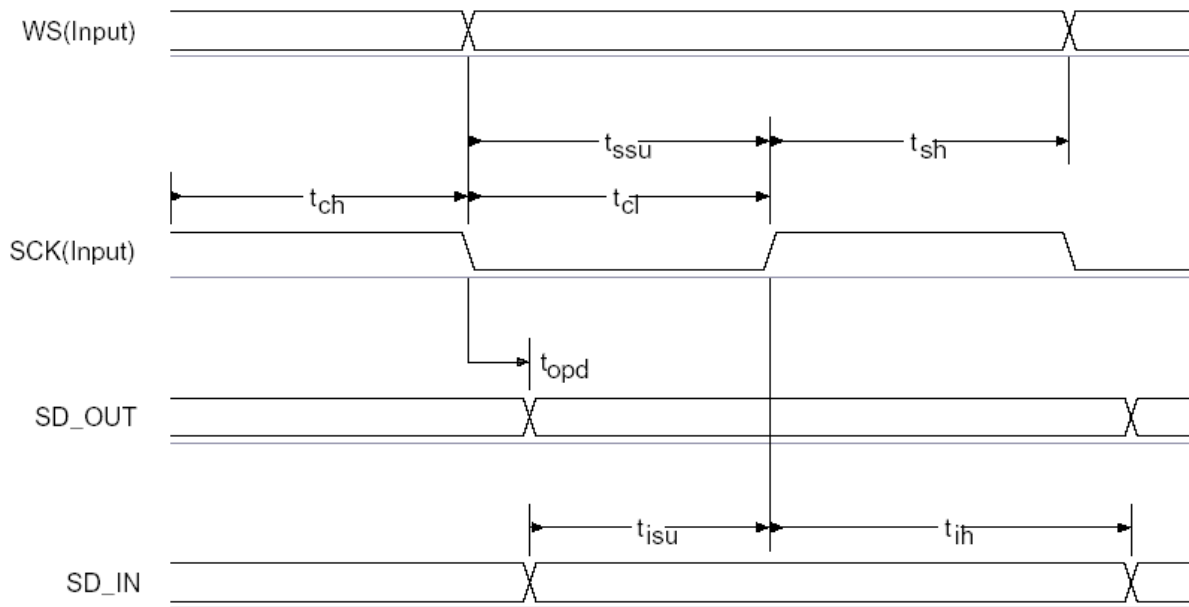

Figure 22: Digital audio interface slave timing
The digital audio interface supports the industry standard formats for I²S, left-justified (LJ) or right-justified(RJ). The interface shares the same pins as the PCM interface, which means that each audio bus is mutually exclusive in its usage. Table 18 lists these alternative functions. Figure 22 shows the timing diagram.